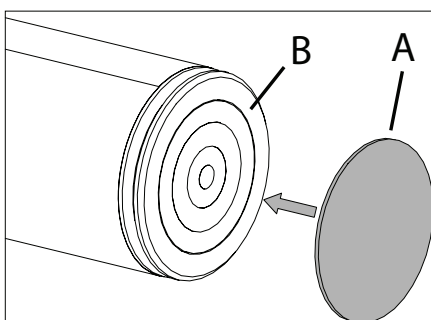
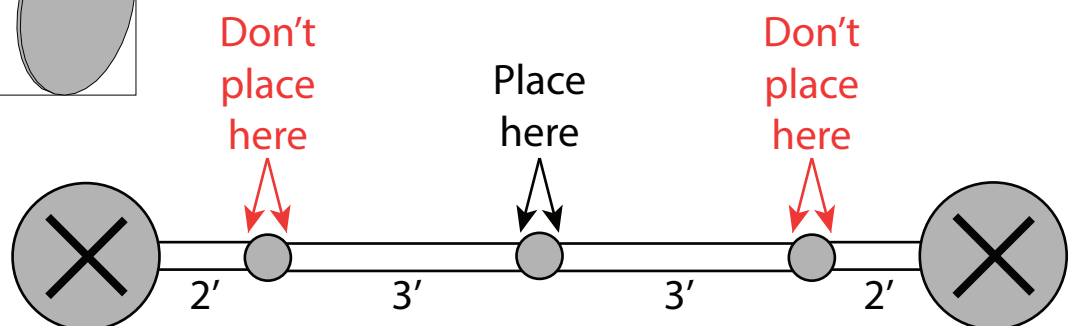

Fig. 2
Fig. 3
- If more than 8 ft is used, place included stickers (A) on luminaire PCBs (B) (Fig. 2) to separate luminaires from different power feeds. Try to keep luminaire distances similar in length (e.g. two sets of 5 ft, rather than one of 2 ft and one of 8 ft) (Fig. 3).